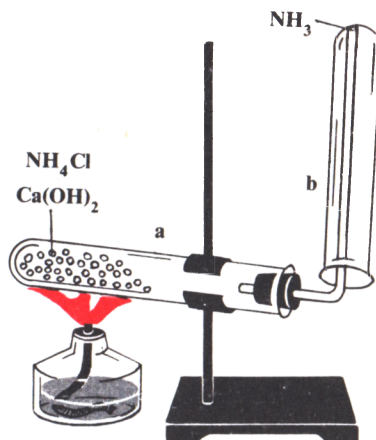

Fig. II.1 Apparatus for preparing ammonia
1. Assemble the apparatus as shown in Fig. II.1. Place some ammonium chloride and calcium hydroxide (one teaspoonful of each) onto a sheet of paper or into a small porcelain dish (a crucible). Mix the salts with a glass rod and transfer them into a dry test tube. Close it with a stopper through which a glass tube is passed and fix in the stand. The test tube should be inclined to its stoppered end. Adjust another dry test tube over the gas outlet tube to collect ammonia.